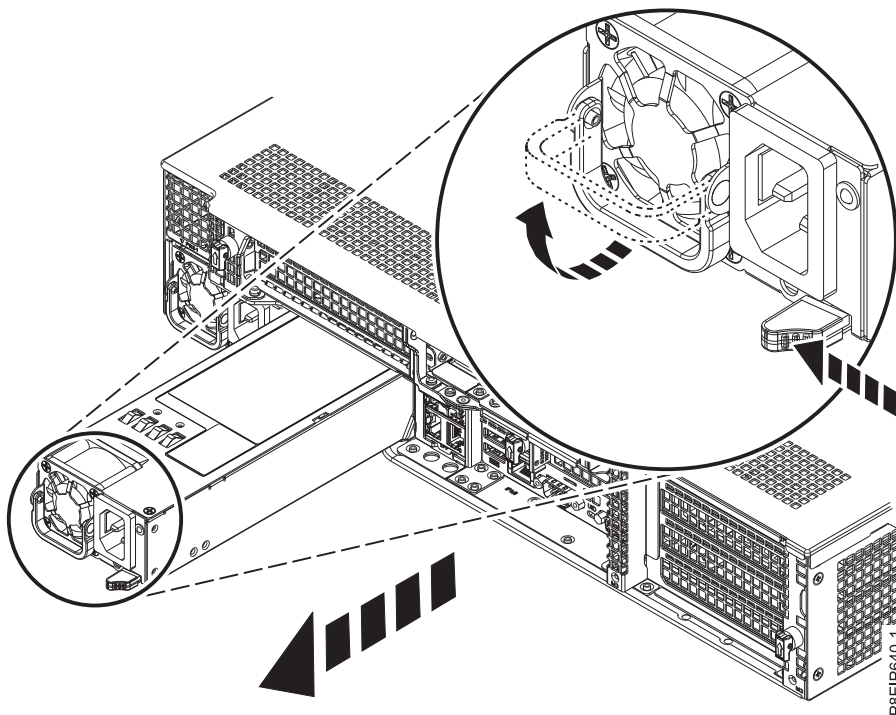

Figure 55. Removing a power supply from the system
- a. To unseat the power supply from its position in the system, push the locking-tab to the left as shown in Figure 55.